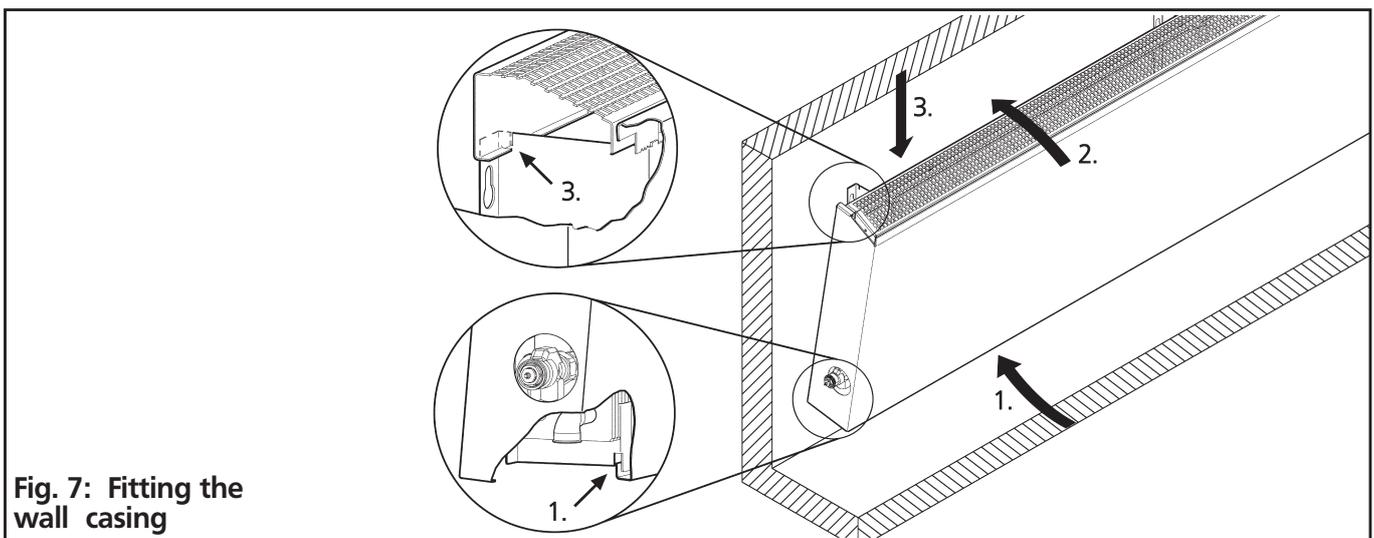
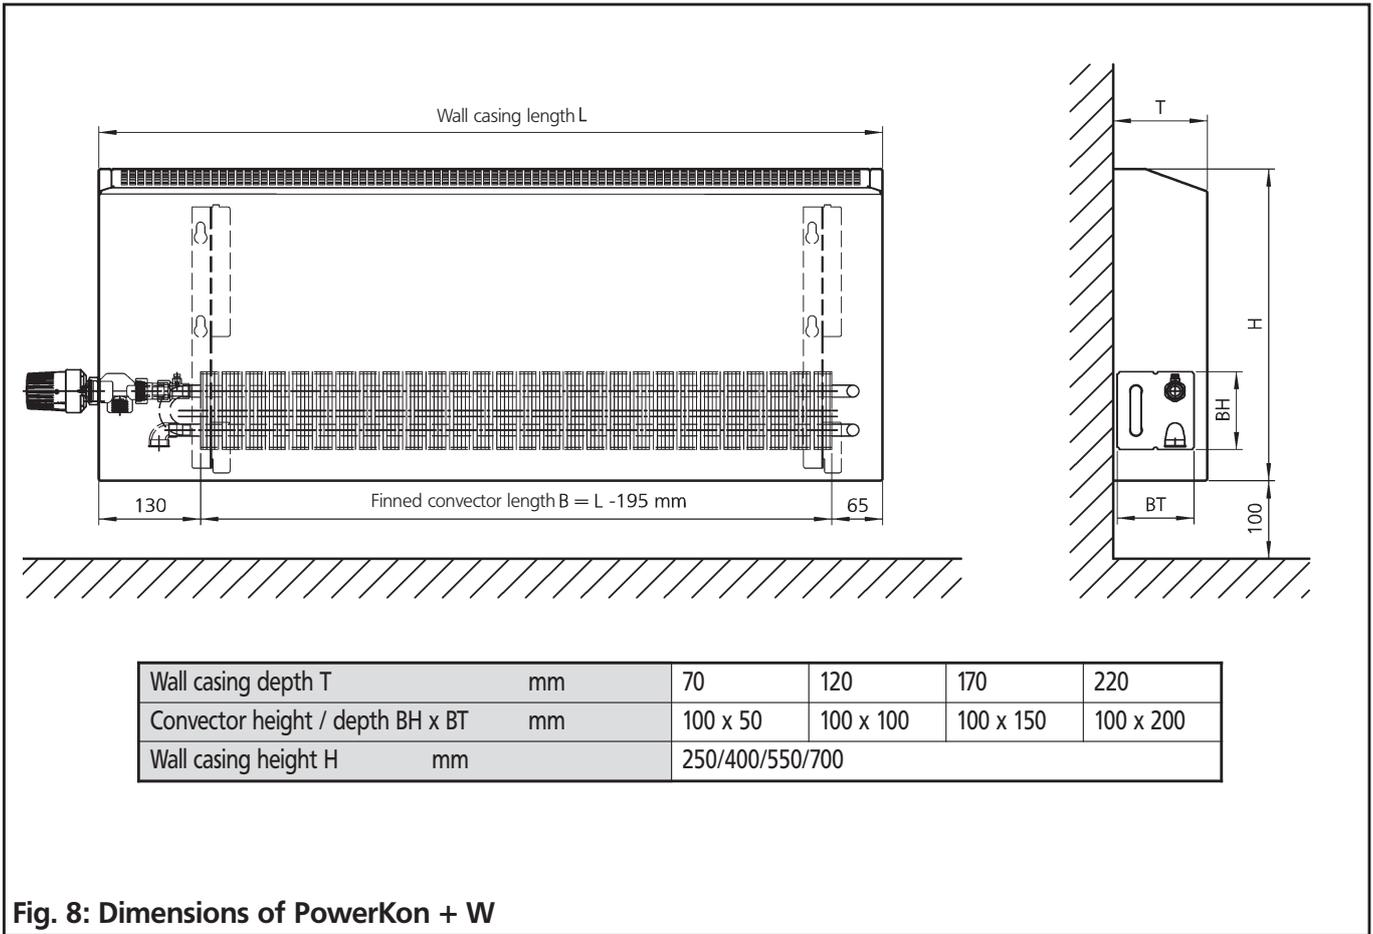

Fig. 7: Fitting the wall casing
Fig. 8: Dimensions of PowerKon + W
- ① Flow connection 1/2"
- ② Return connection 1/2"
- Place the wall casing with the valve recess so that it fits over the wall brackets and the heat exchanger as shown in Fig. 7. Ensure that the spacing dimensions are adhered to, as listed in Fig. 8 on page 8.